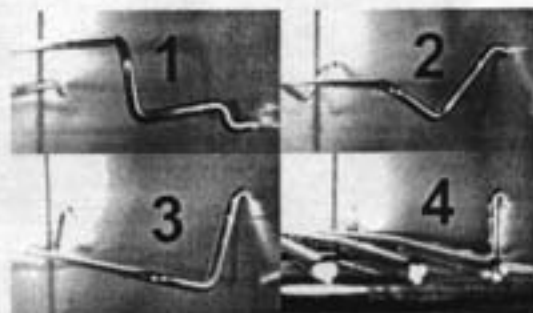

FIG. 1
1. Install adjustable shelf by placing the ends of the wire shelf bracket into the corresponding holes located on the inner sides of the oven at the desired height. Push the ends of the bracket into the holes until the first bends in the bracket are against the wall, then rotate the bracket down. Place the shelf on the brackets. (FIG 1)